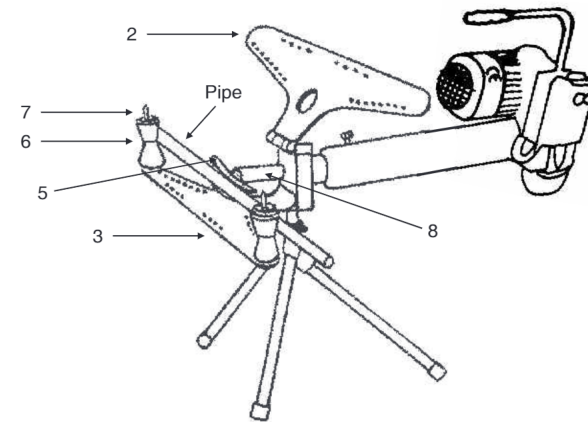

Figure 6
Step 1 : Open upper plate (#2) to put the former/die easily, as shown in figure 6
Step 2 : Select any former/die (#5) provided with the bender, put front of ram/piston (#8) and set dolly blocks (#6) pin (#7) in the holes of lower plate (#3) according to the size of pipe as shown in figure 6
Step 3 : Insert pipe between the former (#5) and dolly block (#6) as shown in figure 6